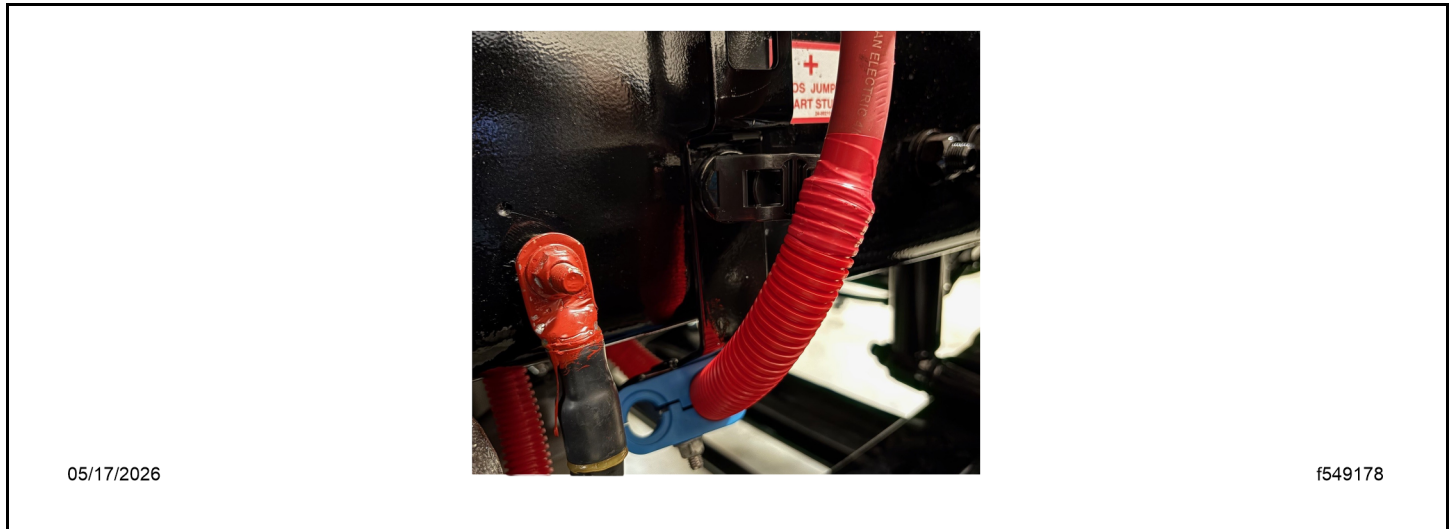

Fig 94, Routing Over the Tie Block
30. Install the 5/8 inch tie block (23-13805-062) on the bottom isolator bracket frame bolt so the cable routing can be set passing by it. See Fig. Fig. 94.